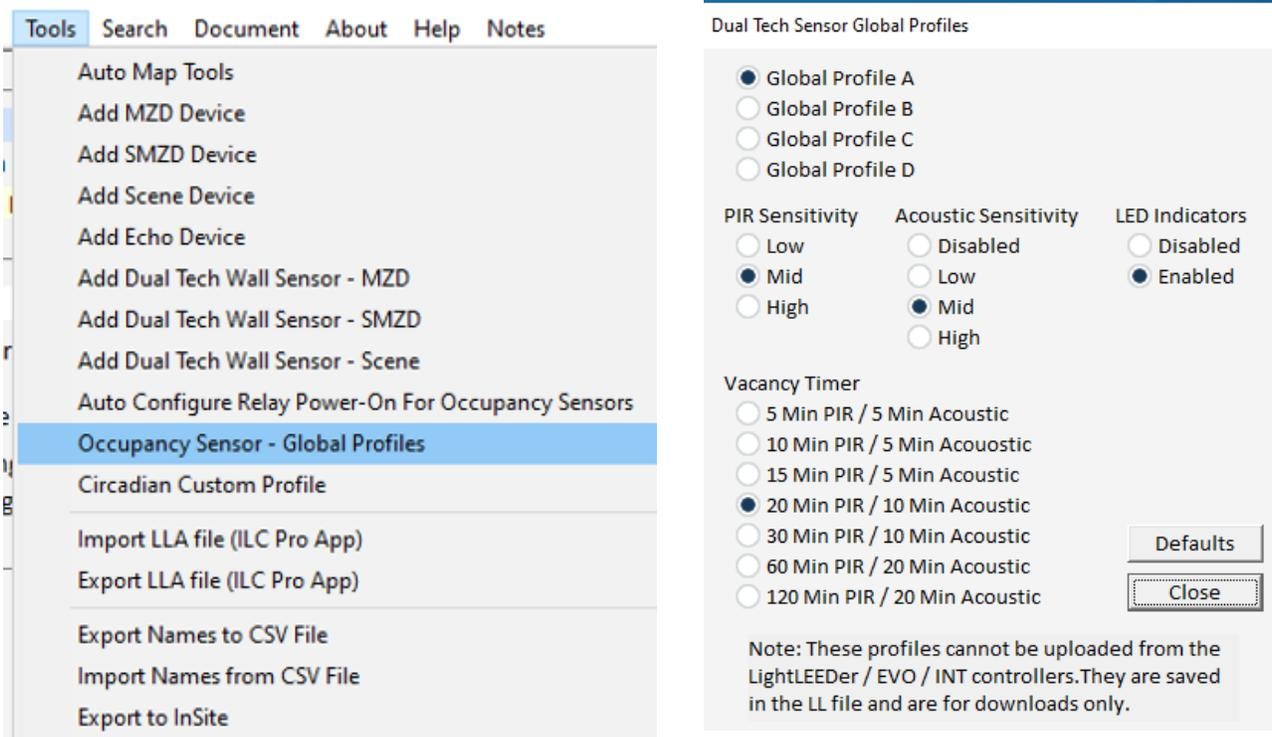

Figure 4 – Occupancy Profile Configuration.
- E. There are also 4 Occupancy Global Profiles for sensors that would share the same settings, this can be used for any number of sensors that you want the control settings to match. Select the sensor profile A to D for each sensor, then configure the settings for each of the 4 profiles. This will allow a programmer to change the settings for each set of area sensors together without having to reconfigure each one, then on the next panel download the setting will all be changed together, refer to Figure 4.